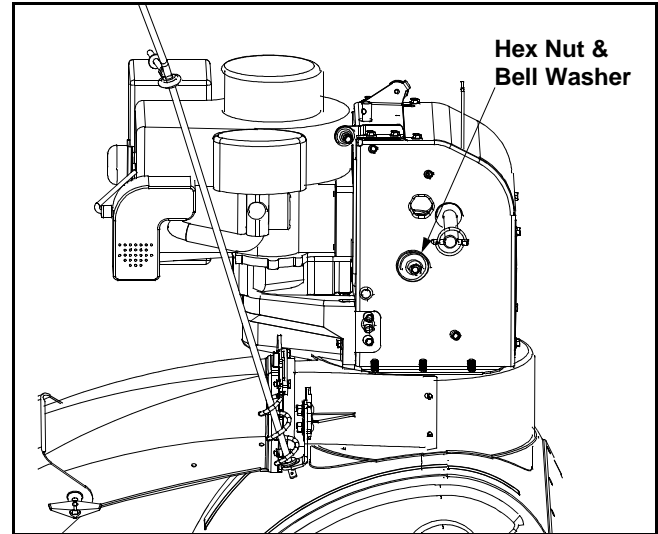

Figure 19
- Tip the snow thrower up and forward, so that it rests on the housing. See Figure 19.